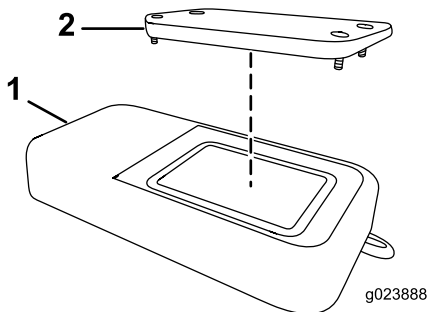

Figure 15
2. Remove the cover (Figure 15).